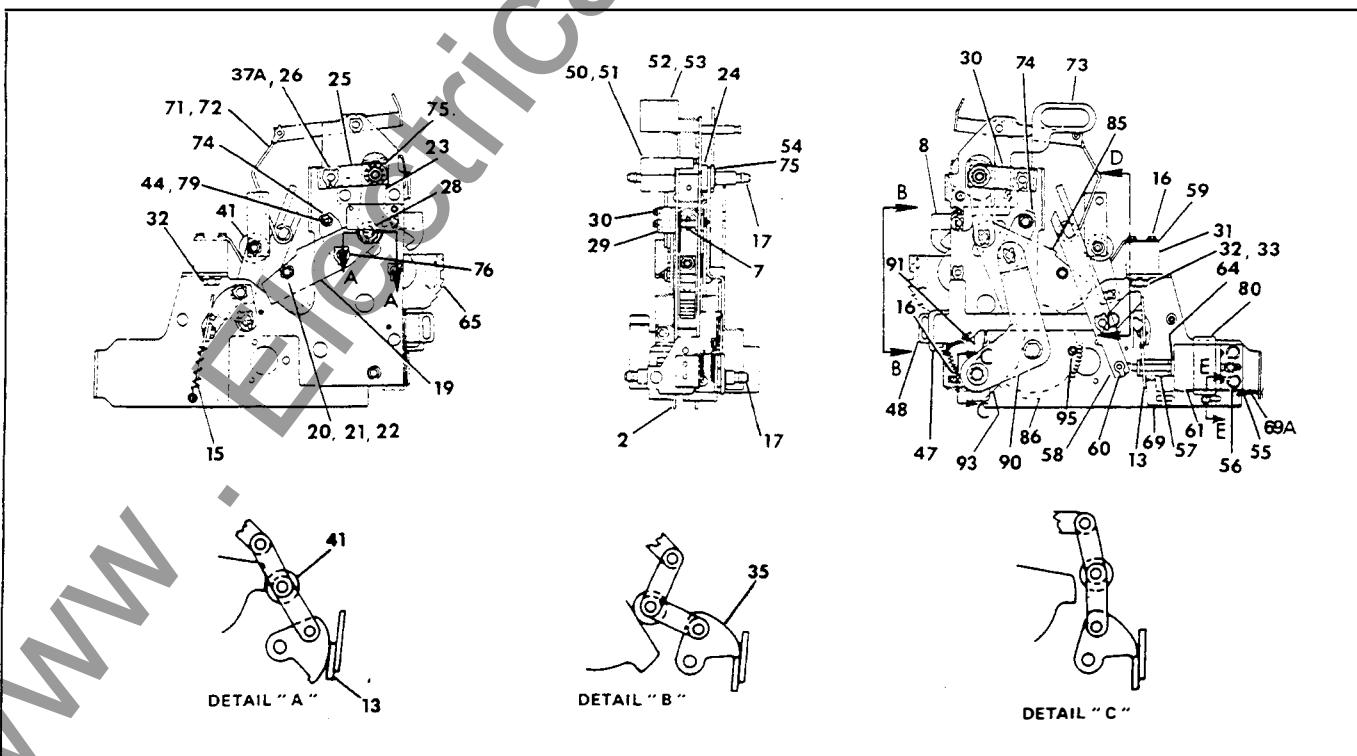

Figure 1. LAF & LA-600B, LA-800A and LA-1600B Operator
The breaker has a center-mounted frame so many of the latches and links are arranged in pairs. For descriptive purposes, they will be referred to as single items. Refer to Figure 1, page 6, and Table 3, page 5. Detail A. shows the position of the trip latch and toggle linkage when the circuit breaker is open and the closing springs are discharged. Movement of the charging handle downward rotates closing cam (65) against roller (28), thus pivoting closing cam (19) clockwise about pin (76). This extends the closing springs through link (23) and spring hanger
(17). Rotation of cam (19) allows roller (41) in toggle linkage to be moved into position shown in Detail B. Kickoff spring (59) moves rollers away from the stop block (31). Then the toggle linkage is moved by torsion spring until latch (35) clears trip latch (13). Spring (15) causes trip latch (13) to reset under latch (35). Trip flap (14) should normally stop against the front surface of latch (35).
cept that the manual charging handle is replaced by a motor and gear system. Refer to Figure 1, Table 4. With power available to the control circuit, closing the motor control switch (M1) will start the automatic charging cycle. The motor gear box pinion rotates gear (86) counterclockwise. Cam follower (95) engages an arm of wind and close cam (85), which rotates the cams in the same manner as for the manually charged circuit breaker. When the wind and close cam (85) reaches its charged position, the back of the cam engages switch lever (9), rotating the lever away from the switch operator. Gear switch lever (93) will still be holding the switch in the operate position, and the motor will continue to run until the roll pins on the side of gear (86) lifts lever (93) clear. This releases the motor cut-off switch (MCO). When the MCO switch opens, the motor stops, and the closing coil circuit is set up through one side of the MCO switch.